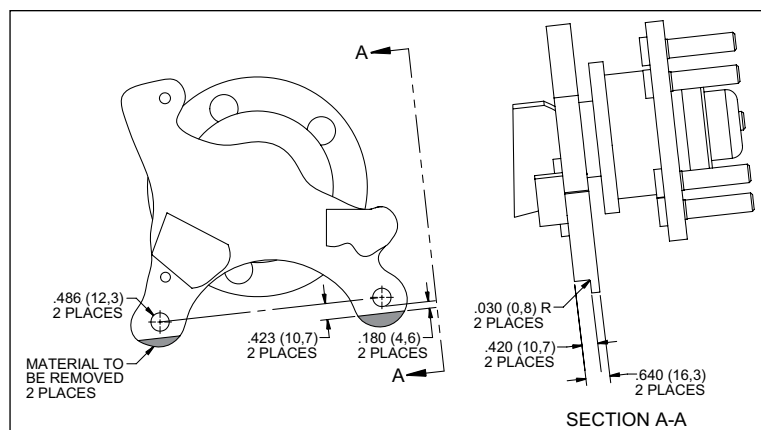

Figure 3. Spindle Modifications
- There are spindle modifications that need to be performed before installation of the Wilwood caliber bracket. Please reference Figure 3, page 4. These modifications should be performed by a qualified machinist.
- These modifications should be performed by a qualified machinist. Refer to Figure 3, right. Only one view of the spindle is shown, but the modifications need to be performed on both spindles.
- The inboard side of the OE caliper mounting tabs need to be modified for proper installation of the new Wilwood caliper mounting bracket. Referring to the dimensions in Figure 3, remove the shaded material from both mounting tabs. Be sure the area is free of sharp edges and burrs. Remove only the material indicated to clear the new caliper bracket.